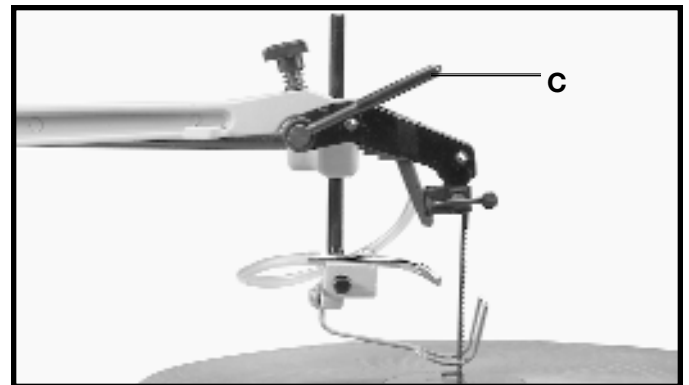

Fig. 40
3. Release blade tension by pulling tension lever (C) Fig. 40, forward as shown.